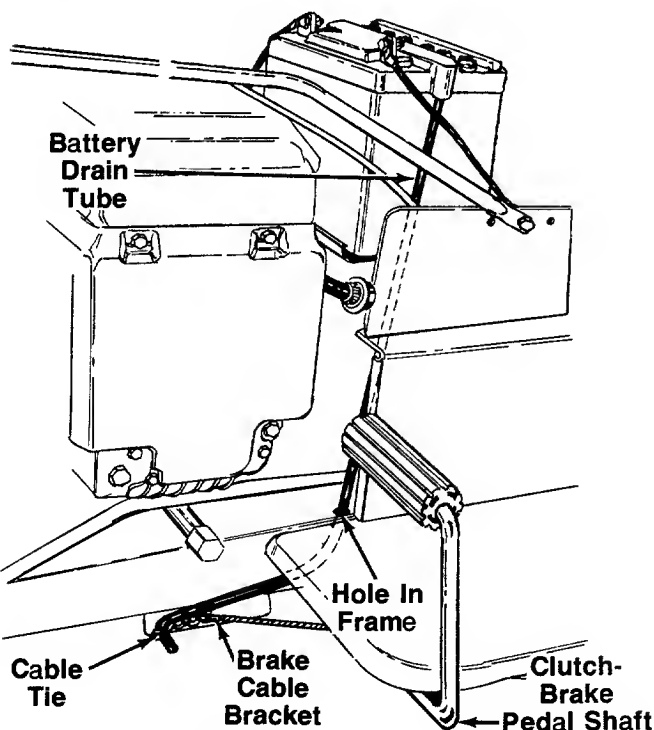

FIGURE 8.—44" Deck Shown
6. Route the battery drain tube down through the hole in the frame, then forward to the brake cable bracket. See figure 8.
7. Secure drain tube to brake cable bracket with the cable tie as shown in figure 8. Trim excess end of cable tie.